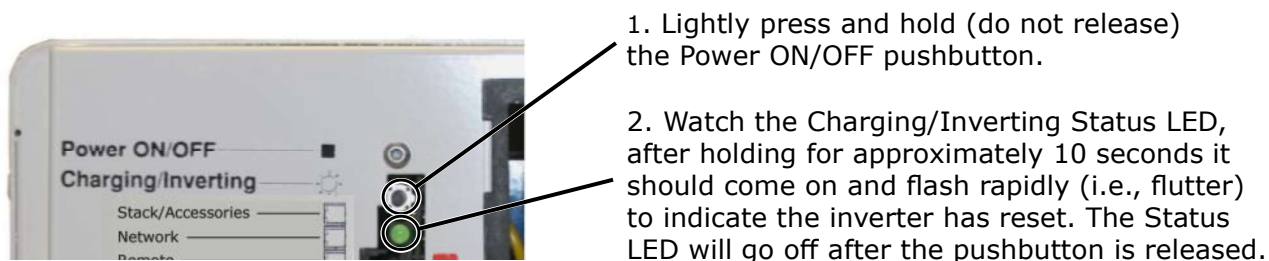

Figure 6-1, Performing an Inverter Reset
1. Lightly press and hold the Power ON/OFF pushbutton (see Figure 6-1) for approximately ten (10) seconds until the Charging/Inverting Status LED comes on and flashes rapidly (i.e., flutters).